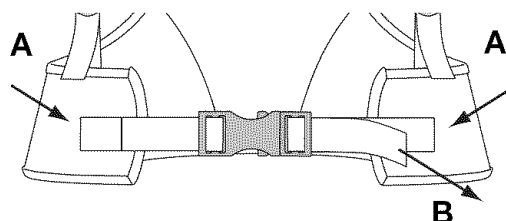
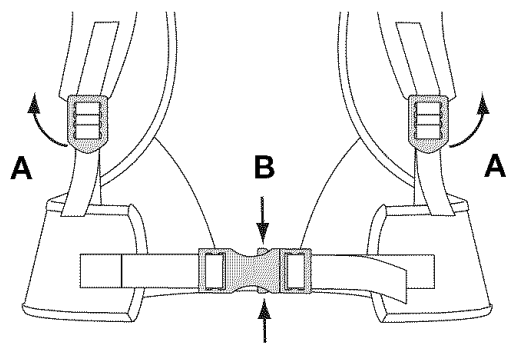

Fig. 15
Fig. 16
NOTE: Make sure the weight of the unit is supported on the hips by the waist support (Fig. 15, A).
3. If weight is not on hips, loosen the shoulder supports (Fig. 16, A) and pull the waist support handle (Fig. 15, B) to tighten. Adjust until the unit's weight rests on the hips.
1. To release the shoulder supports, pull up on bottom tab of the shoulder support buckles (Fig. 16, A).
2. Squeeze the top and bottom of the waist support clips to release the waist support (Fig. 16, B).